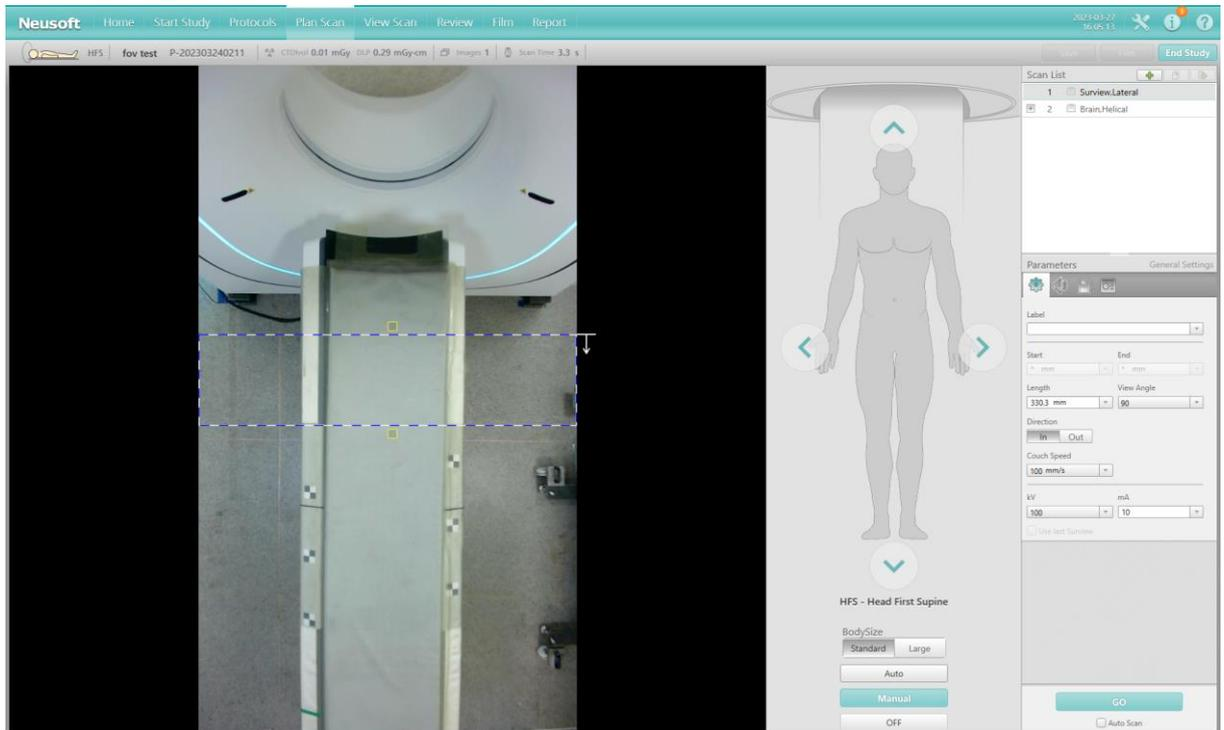

Fig 6-9 Manual mode
1. Click the left mouse button on the patient's real-time video image to draw a rectangular scanning area, as shown in figure 6-9.